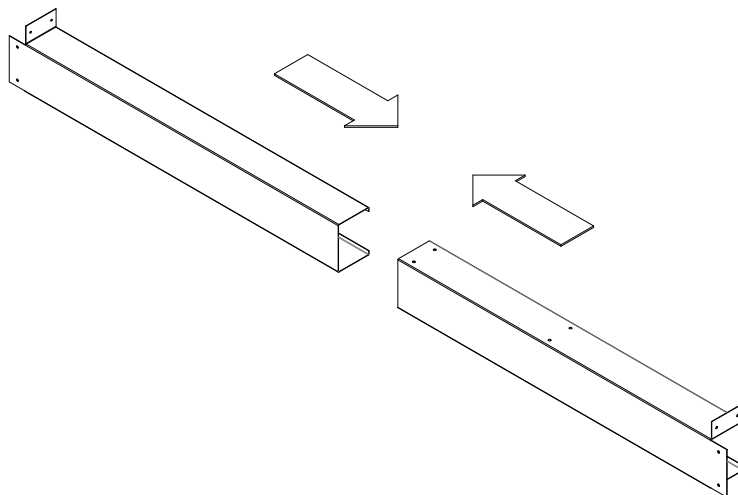

Figure 15: Steel Stud Assembly
- Take the two steel stud pieces and slid them into each other. The flanges of each piece should be at the end of the assembly, as well as facing upwards as shown in Figure 15.